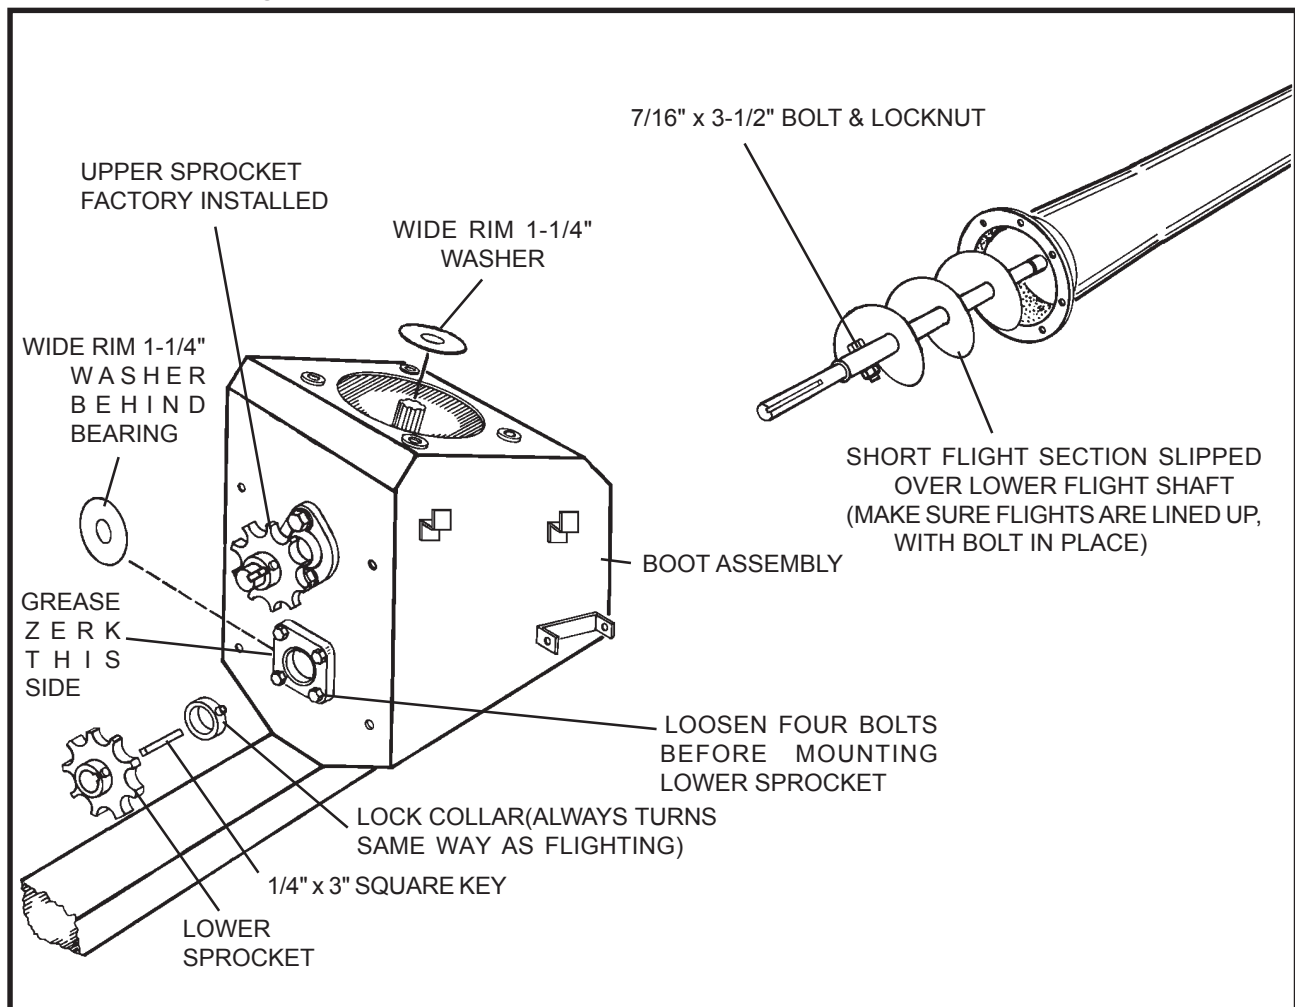

Figure No. 9
1. Slide short flighting section onto lower flight shaft and tighten with 7/16" x 3-1/2" bolt and locknut as shown in **Figure No. 9**. Make sure that flight ends butt together for continuous flow.